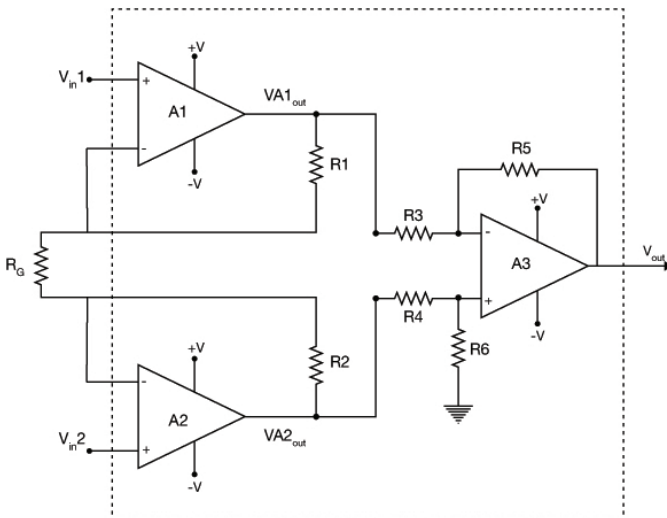

Figure 17.13 Internal construction of an instrumentation amplifier.
The internal construction of a basic **instrumentation amplifier** is shown in **Figure 17.13**. Note that this circuit has three op-amps and six resistors in its construction. Op-amps A1 and A2 are identical noninverting amplifiers that provide high input impedance and voltage gain. Op-amp A3 is a **differential amplifier** that responds to the difference between outputs VA1out and VA2out and has low output impedance. The gain setting resistor R_G is externally connected to the circuit. Assume now that V_{in1} and V_{in2} are applied to the noninverting input (+) of A1 and A2. When this occurs, the amplified voltage output of A1 is
32. Referring to **Figure 17.13**, the function of the op-amp A3 is:
33. The basic instrumentation amplifier shown in **Figure 17.13** has: